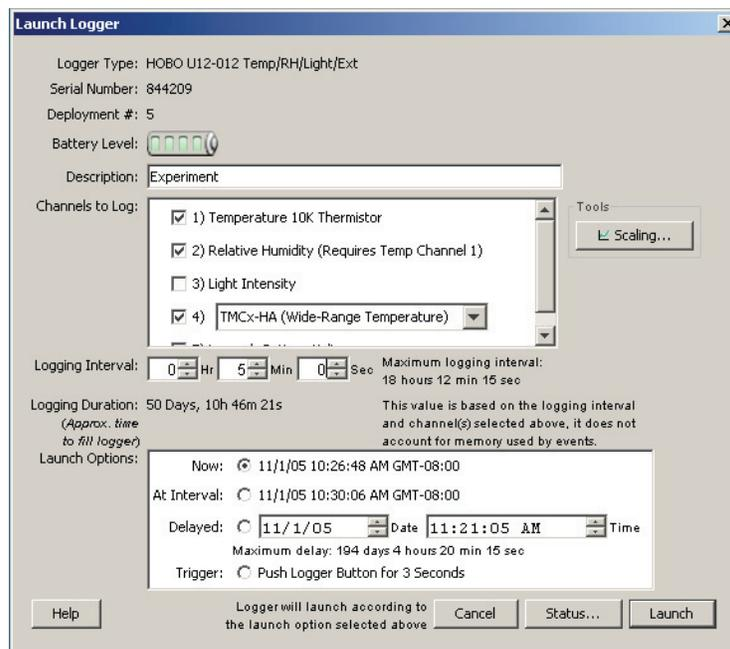

Figure 2 HOBOWare Launch Screen
In *Figure 2* the logger is configured to log temperature on *channel 1*, relative humidity on *channel 2* and temperature with an external thermistor on *channel 4*.
8. **The duration period for the study is automatically determined by the logging interval chosen and the number of channels enabled.** The duration shown in the launch screen in *Figure 2*, with 3 channels enabled and a 5 minute logging interval is 50 days 10hrs 46 minutes.